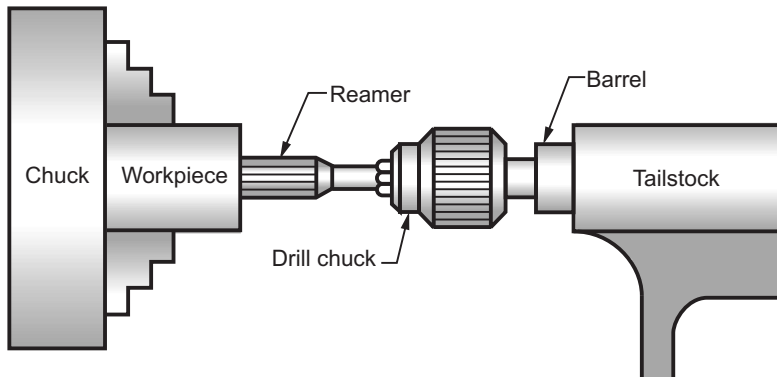

Fig. 5.12 : Setup for reaming on a lathe
- During the operation, the workpiece is held in a chuck or face plate and the reamer shank is fitted in a sleeve or inserted in the tapered hole of the tailstock spindle. Refer Fig. 5.12.